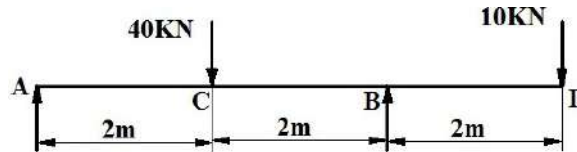

Figure 33
14. Determine the deflection under the loads in the beam as shown in **Figure 33**. Take flexural rigidity as IE through out